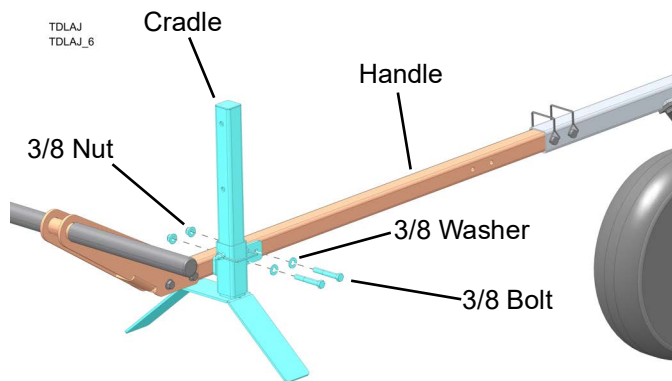

**FIG. 3-4**
3. Use (4) 3/8-16x3/4 inch hex head bolts and (4) 3/8 flat washers to secure Backbone Tube to (2) Leg Supports. See FIG. 3-4.